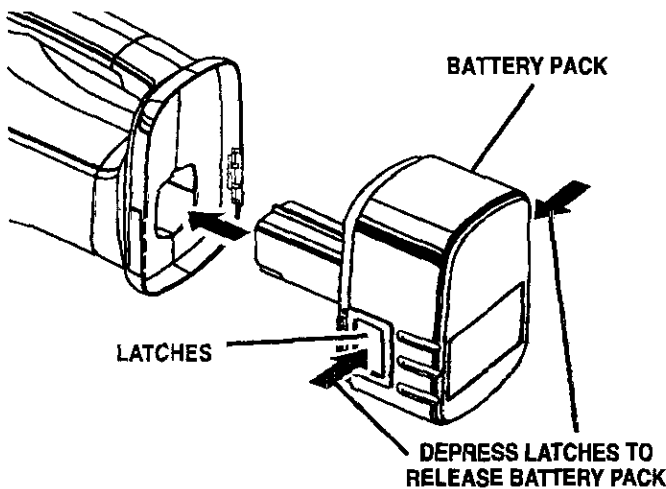

Fig. 4
■ Place battery pack in hand vac aligning raised rib on battery pack with groove inside hand vac. See Figure 4.
- Locate latches on side of battery pack and depress to release battery pack from hand vac. See Figure 4.